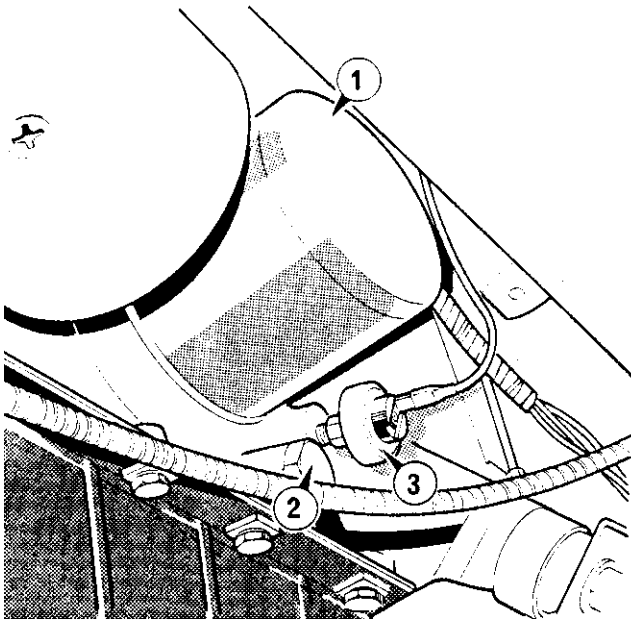

Figure 4 Engine Oil Filter
2. Grasp the oil filter with both hands, turn in an anti-clockwise direction, remove and discard. (figure 4)